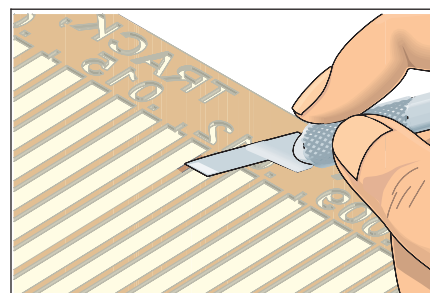

Figure 3 Scrape off epoxy bonding film.
8. Before trimming out the new conductor carefully scrape off the adhesive epoxy film from the solder joint connection area on the back of the new conductor. (See Figure 3.)